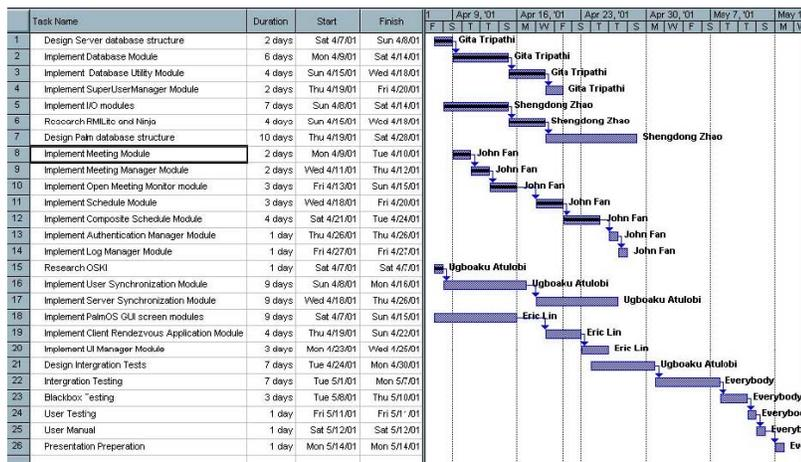

Figure 11.3: An example of a Gantt chart.
**Step 4.** The first path has a duration of 11, which is longer than the other paths, so it's the critical path. The schedule can also be displayed using a Gantt chart (Figure 11.3).